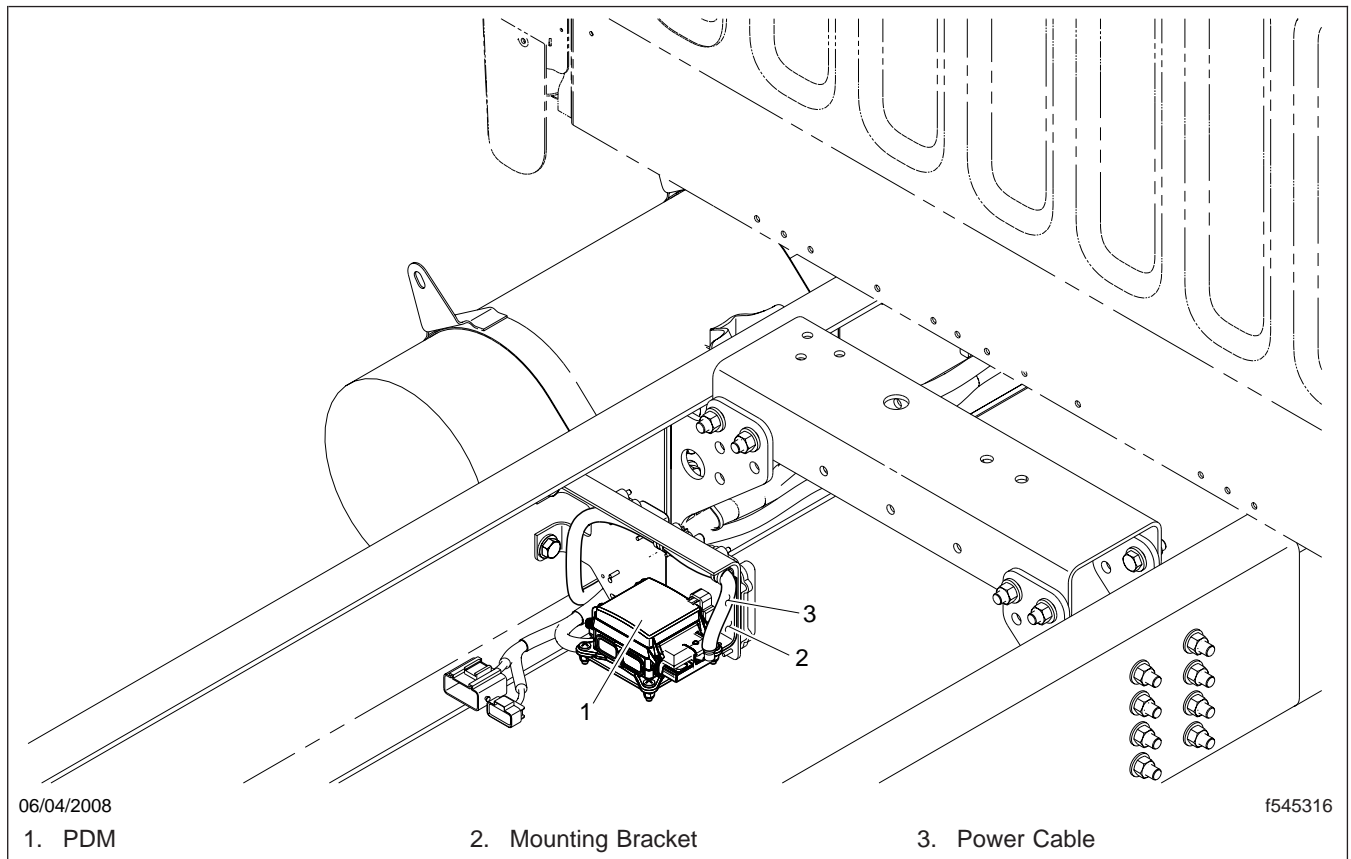

Fig. 2, Location of Trailer/Taillight PDM (typical)
3. Find the trailer or taillight PDM. It may be located on the frame rail behind the cab, or mounted on one of the rear crossmembers. See Fig. 2.